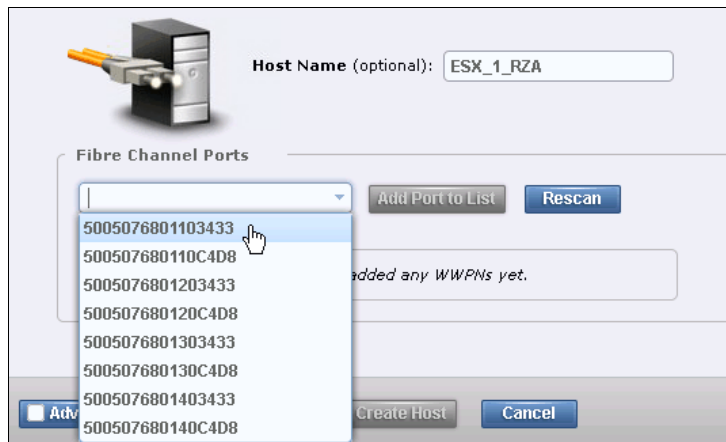

Figure 4-20 Available WWPNs
2. Enter a host name and click the **Fibre Channel Ports** drop-down menu to get a list of all known WWPNs (Figure 4-20).